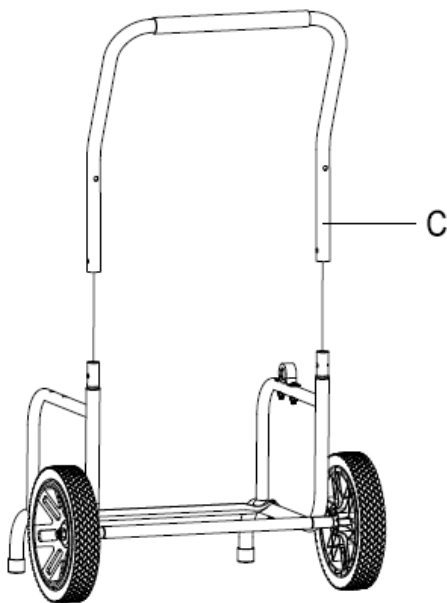
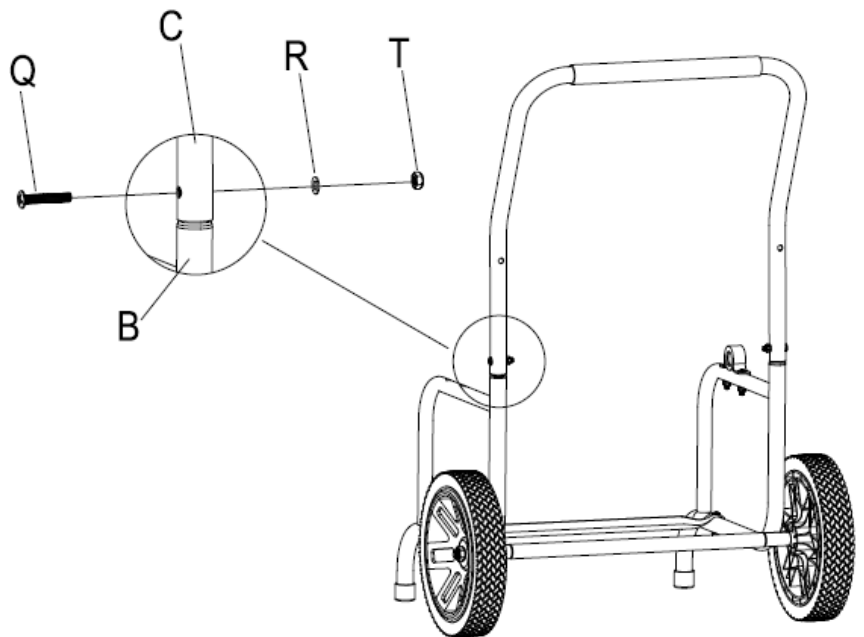

Figure 4.1
Figure 4.2
Step 4: Attach the Upper Frame Handle (C) to the Side Frame (B) with Bolt (Q), Washer (R), and Lock Nut (T). Refer to Figure 4.1 and Figure 4.2. Repeat for opposite side.